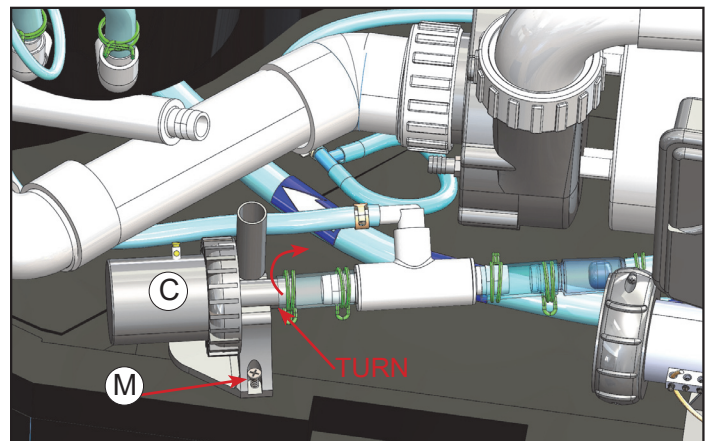
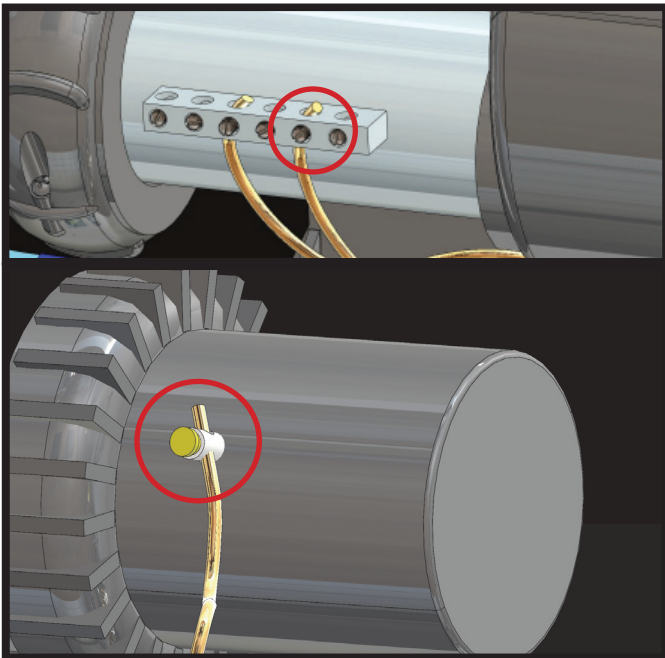

Figure 10.1
Figure 11.1
1. Locate Circulation Pump Assembly (C) that comes with kit.
2. Place Circulation Pump Assembly (C) inside equipment compartment as shown in (Figure 10.1).
3. Once Circulation Pump Assembly (C) has been set inside equipment compartment, secure Circulation Pump Assy. to equipment compartment floor using 2 Circulation Pump Mounting screws (M) (Figure 10.1).
- Turn 3/4" vinyl hose that connects to circulation pump inlet until it looks similar as in (Figure 10.1)
- Locate Copper Bonding Wire (N) that comes in kit.
- Connect one end of the Copper Bonding Wire (N) to the bonding block on the left side of heater (Figure 11.1).
- Connect the other end of the Copper Bonding Wire (N) to the bonding lug located on the Circulation pump body (Figure 11.1).